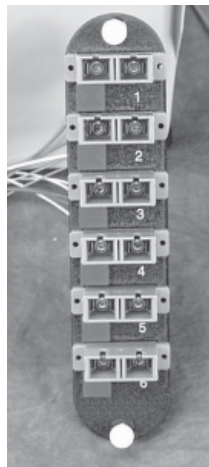

Figure 12
**10.1** LANscape connector panels (Figure 12) are generally shipped separately with connector adapters installed.